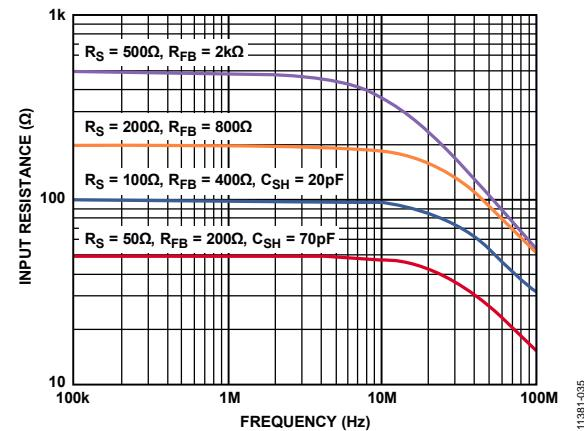

Figure 34. R_{IN} vs. Frequency for Various Values of R_{FB} (Effects of R_{SH} and C_{SH} Are Also Shown)
The bandwidth (BW) of the LNA is greater than 80 MHz. Ultimately, the BW of the LNA limits the accuracy of the synthesized R_{IN} . For $R_{IN} = R_S$ up to about 200 Ω , the best match is between 100 kHz and 10 MHz, where the lower frequency limit is determined by the size of the ac coupling capacitors, and the upper limit is determined by the LNA BW. Furthermore, the input capacitance and R_S limit the BW at higher frequencies. Figure 34 shows R_{IN} vs. frequency for various values of R_{FB} .